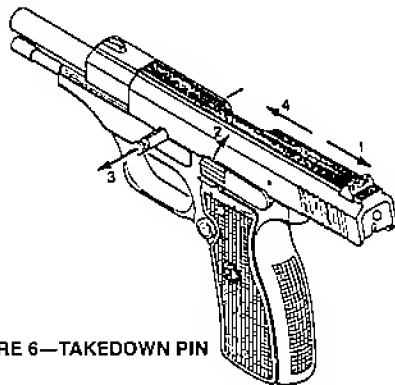

FIGURE 6—TAKEDOWN PIN
1. Ensure magazine is removed and pistol is NOT loaded. Be sure you are familiar with the Safety Instructions in Section 3. Now see Figure 6.